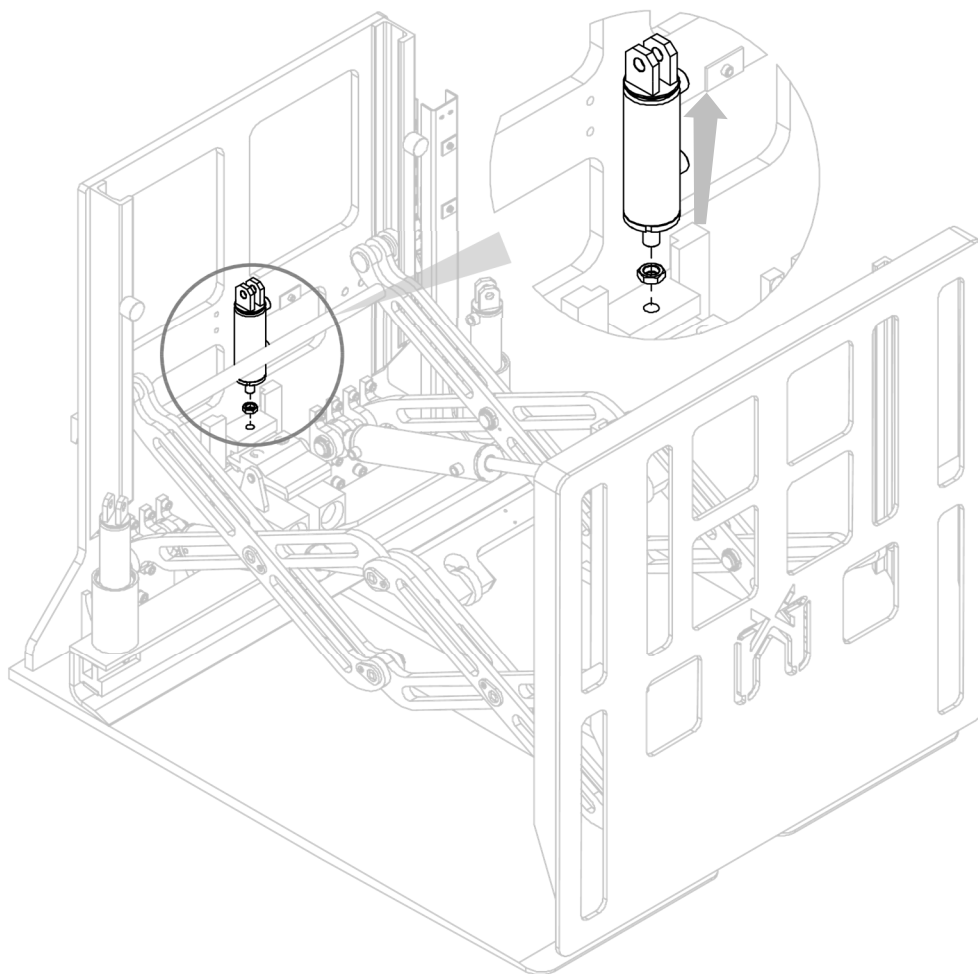

Figure 31
4. Remove the cylinder after unscrewing the rod from its coupling (see *Figure 31*).